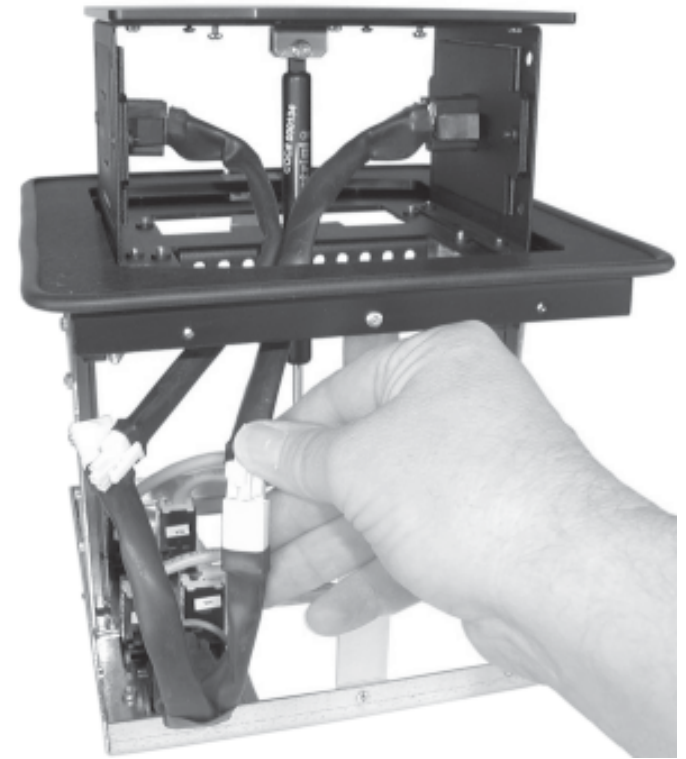

Figure 3-5 — Disconnecting the interior AC cables
2. Disconnect the 3-prong cable connectors on the interior AC cables (figure 3-5).